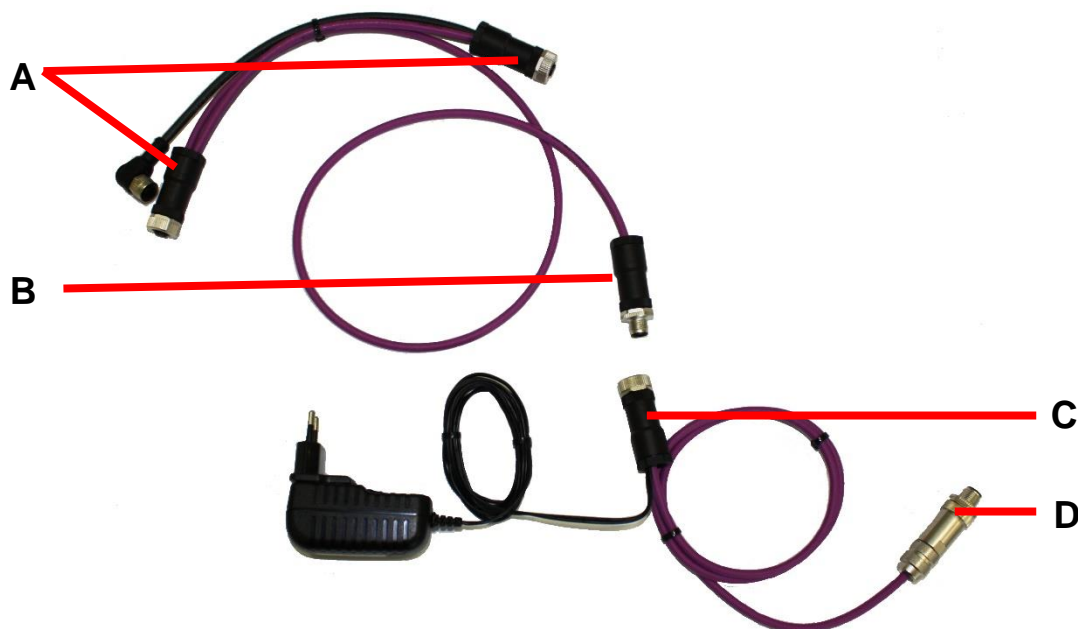

Figure 7: CAN data line with network connection
Figure 7 shows the CAN data line together with the power pack and the data line. Proceed as follows:
- Connect the sensors with the included CAN cable (point **A**, Figure 7)
- Connect the plug of the CAN cable (point **B**, Figure 7) to the CAN system or measurement instrument (MS5060Plus, MS5070 or MS4070)
- If the sensors are supplied autonomously with current, the plug on the CAN data line (point **B**, Figure 7) is connected to the socket of the power pack (point **C**, Figure 7). Then the plug on the power pack (point **D**, Figure 7) is used as the data line of the CAN bus.